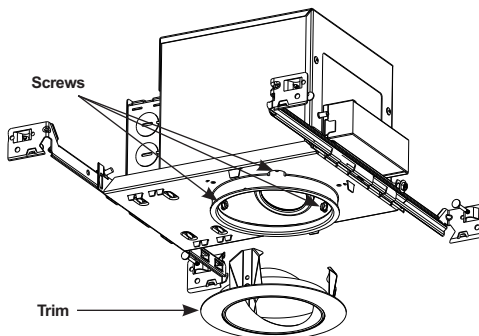

Figure 14
Step 1. Remove trim (Fig. 14).
Step 2. Remove 3 screws that secure inner housing to the plaster frame. Inner housing will slide out of fixture (Fig. 14).